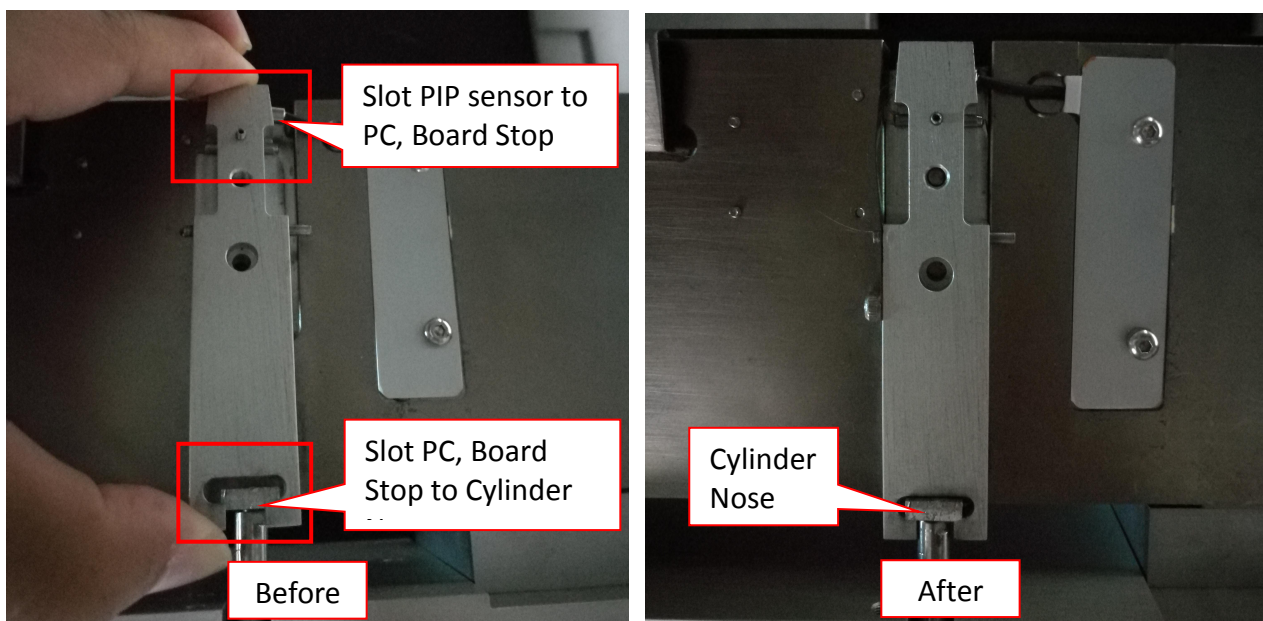

Figure 6 PIP Board Stop Assembly
2. Gently slot new PIP Block as shown in Figure 6.